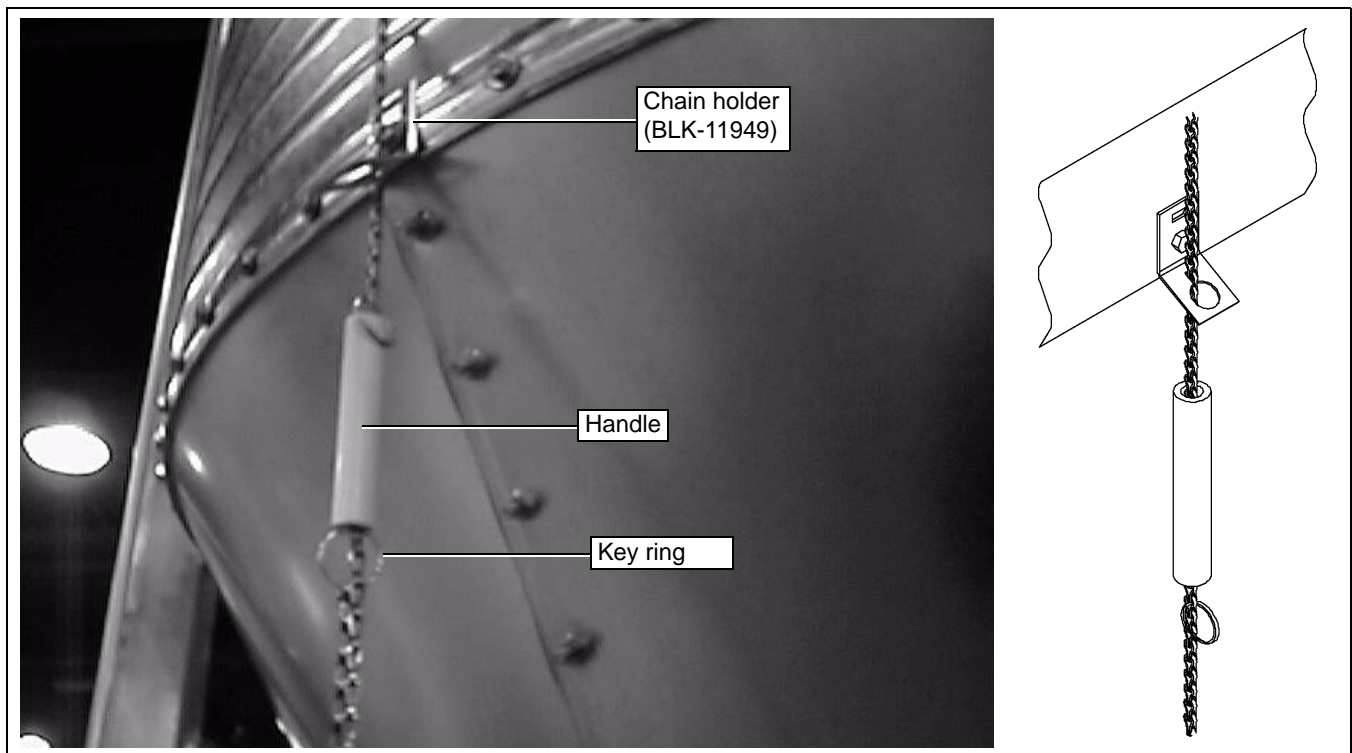

Figure 7Q
After removing the slack from the ground control chain while in the fully closed and latched position. Install the key ring clip 2" below chain holder bracket. (See Figure 7Q.) Ensure that the key ring allows the cap to fully latch when the cap is in the closed position, yet will not allow the chain enough slack on top of the cap to become wrapped around the pivot arm in a high wind condition.
Bolt the chain holder (BLK-11949) to the bottom horizontal row of sidewall holes or field drill and bolt to the leg tie brace. (See Figure 7Q.) Two (2) 4" plastic handles and extra key ring clips are provided for use at the hopper eave to be used as fully open and fully closed cap indicators.